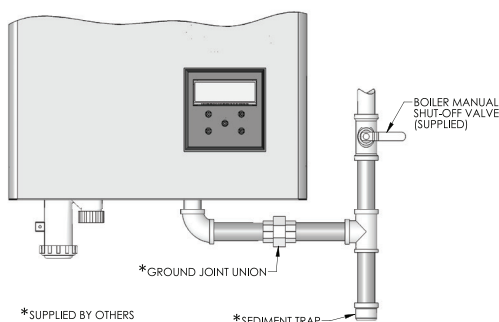

Figure 5.1: Suggested Near Boiler Gas Piping
2. Install a sediment trap as shown in Figure 5.1. Be sure to allow clearance from the floor or other horizontal surface for removal of the pipe cap.
4. Install a service valve as shown in Figure 5.1 to allow the gas supply to be interrupted for service.
7. Figure 5.1 shows the gas shutoff valve for the Peak boiler. This valve is to be used in addition to the gas service valve shown upstream of the sediment trap.